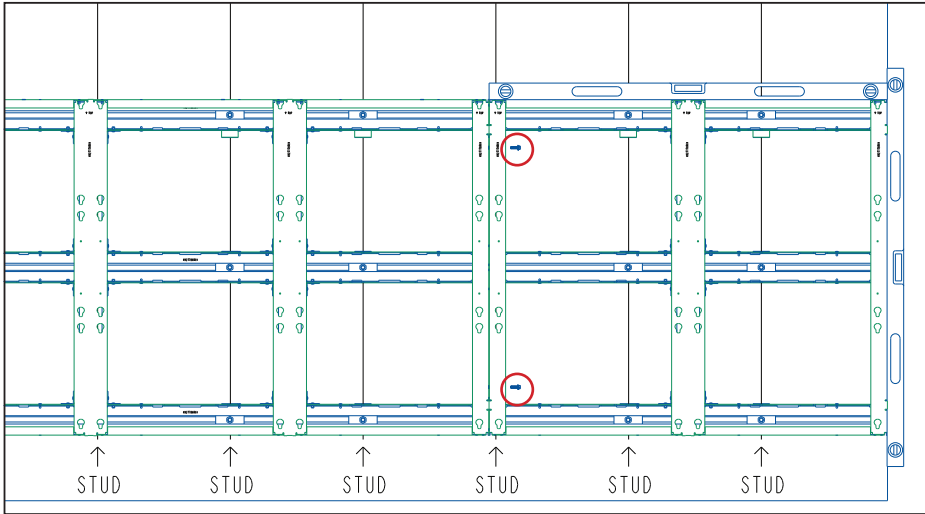

Figure 8: Install Stitch Bolts
- 2. Install the supplied stitch bolts (HC-1842). Refer to **Figure 8**.